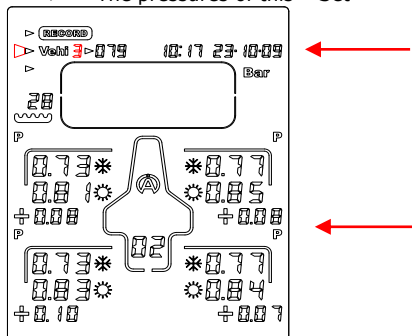

Figure 2
- 2) With the button or select the icon « **Vehi** » (figure 2)
- 3) With the button or select the vehicle wanted (5 to the total) (figure 2)